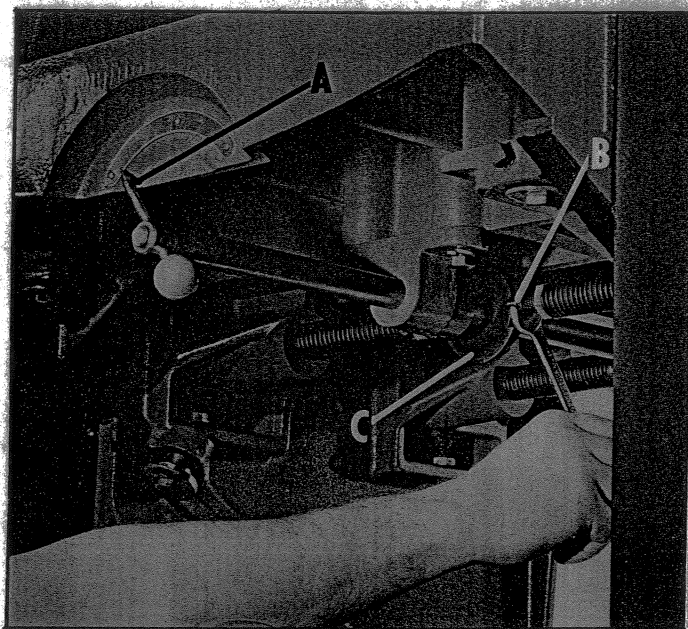

Fig. 8
10. Set pointer (A) Fig. 8, at the 0 mark on the scale, and unscrew square head screws (B) in rods until they touch cams (C). Continue to unscrew the four screws (B) until the bed rolls just touch the straight-edge. With the straight-edge across the bed rolls, and while you are backing out the screws raising the rolls, turn the rolls by hand until the straight-edge just starts to move.